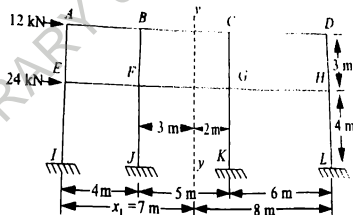

Figure 6
16. Analyse the frame in Figure 6 by Cantilever method. Take cross-sectional areas of all columns as the same.